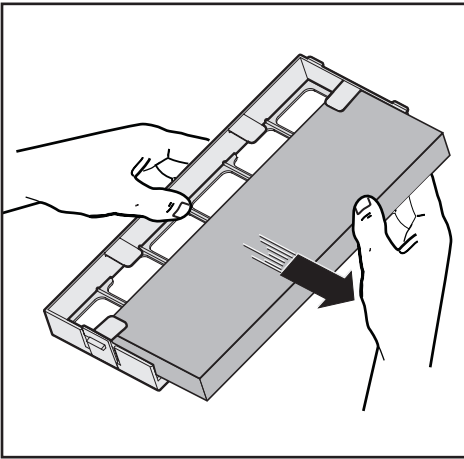

Fig.15
- If you wish to turn your **EXTRACTOR** hood into a **FILTER** one, you need to contact your retailer to order either non-regenerative active carbon filters (Fig.5C) or regenerative active carbon filters (Fig.15). These are available as accessories.